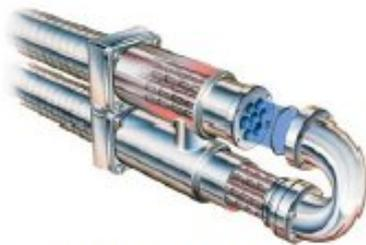

Fig. 9.13 Tubular heat exchanger for heating and cooling.
- Tubular heat exchangers, Figure 9.13